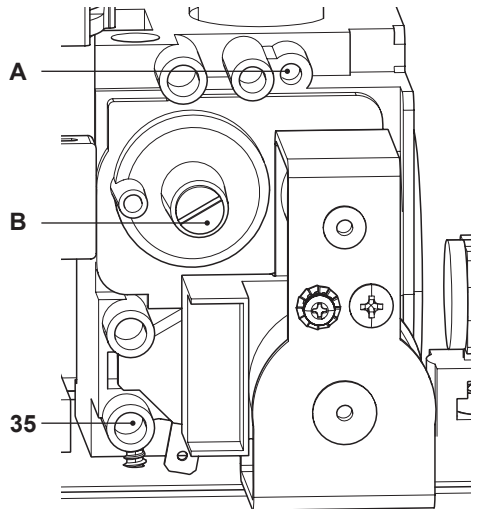

Fig. 7.6
- When the boiler is switched off (out of order), check the supply pressure by using the 35 point in Fig. 7.6 and compare the value read with that reported on the Gas supply pressure table in the "Technical Data" section (pag. 32 Inovia 25C, pag. 35 Inovia 30C and pag. 38 Inovia 35C).
- Close well the pressure point 35 in Fig. 7.6.